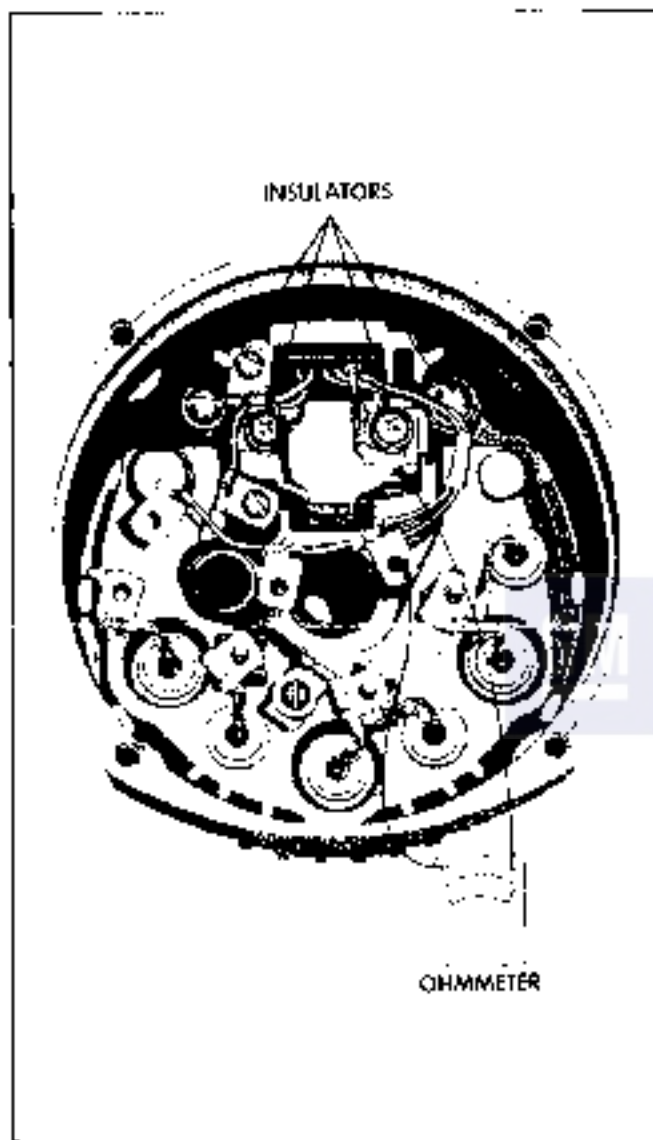

Fig. 6E-19 Regulator Checks - C.S.I. Generator
2. Remove the numbers 3, 4, and 5 regulator lead clips from the studs as shown in Fig. 6E-19.
3. Using lowest range scale on an ohmmeter having a 1 1/2 volt cell, connect to one of the three disconnected regulator leads and to the generator No. 1 terminal as shown in Fig. 6E-19. Note ohmmeter reading.